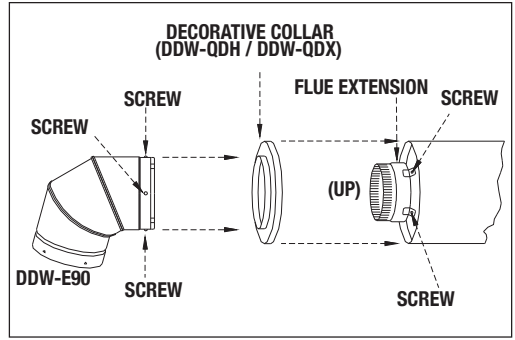

Figure 4
5. Use an adjustable (DDW-L3A) or fixed length (DDW-L) of stove pipe horizontally between the 90° elbow (DDW-E90) and chimney. Attach this length to the elbow. Fix a decorative collar to the chimney and secure the connector pipe to the chimney flue extension using 3 metal screws (see figure 4).